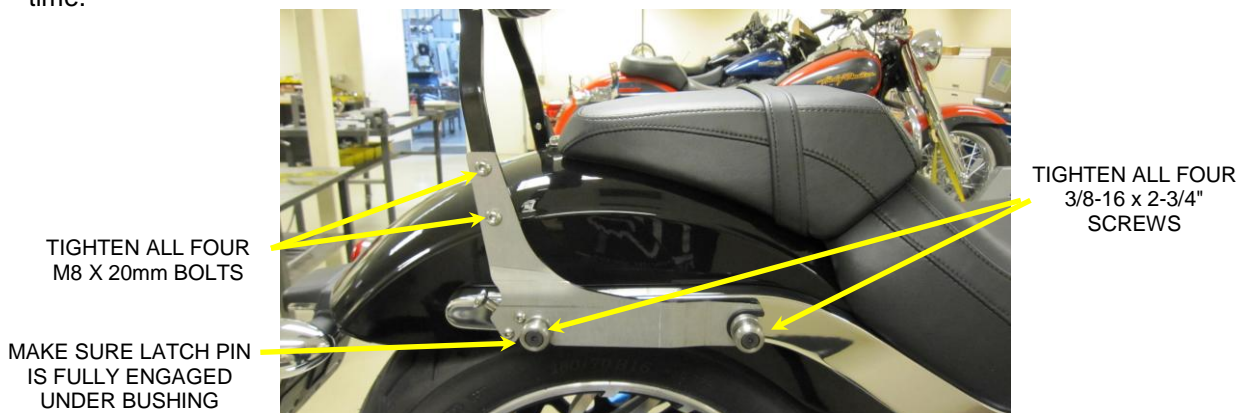

FIGURE 5
9. Pull backward on both detachable latch knobs and then push downward on the backrest to allow the backrest to sit completely on the rear mounting bushings. Then release the detachable latch knob to fully engage the latch pin underneath the mounting kit bushing. See **FIGURE 5**.
10. Always check to make sure both detachable latch pins are fully engaged on the bottom of the mounting kit bushing. Failure to fully engage the detachable latch pin could cause the backrest to come loose while riding. See **FIGURE 5**.
11. Pull backward on the top of the sissy bar and then tighten all four M8 X 20mm bolts. See **FIGURE 5**.
12. **TIGHTEN**, the 3/8"-16 x 2-3/4" front and rear mounting bushing screws fully to Harley original torque specifications for fender rail screws. Verify, Loctite was used on all (4) 3/8" screws.